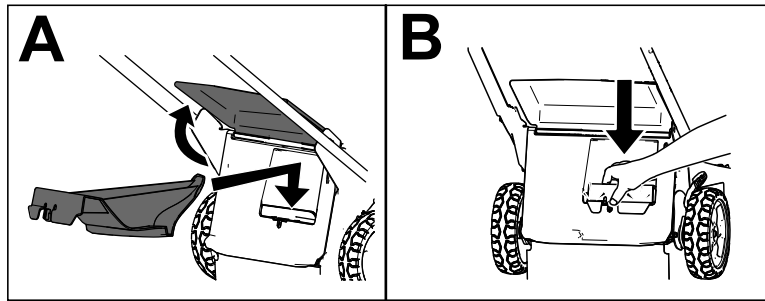

Figure 8
**Important:** Ensure that the rear plug is locked in place. To lock the plug, raise the rear deflector (A of Figure 8), and firmly push the plug down until it snaps into place (B of Figure 8).